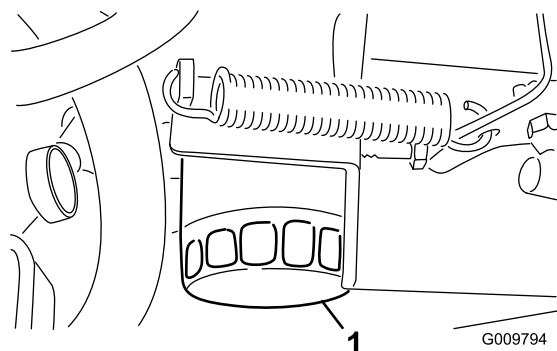

Figure 40
2. Remove the oil filter (Figure 40).